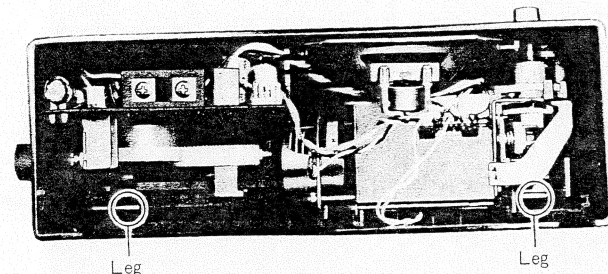

Fig. 6
3. Push the leg of panel, as illustrated in fig. 6.